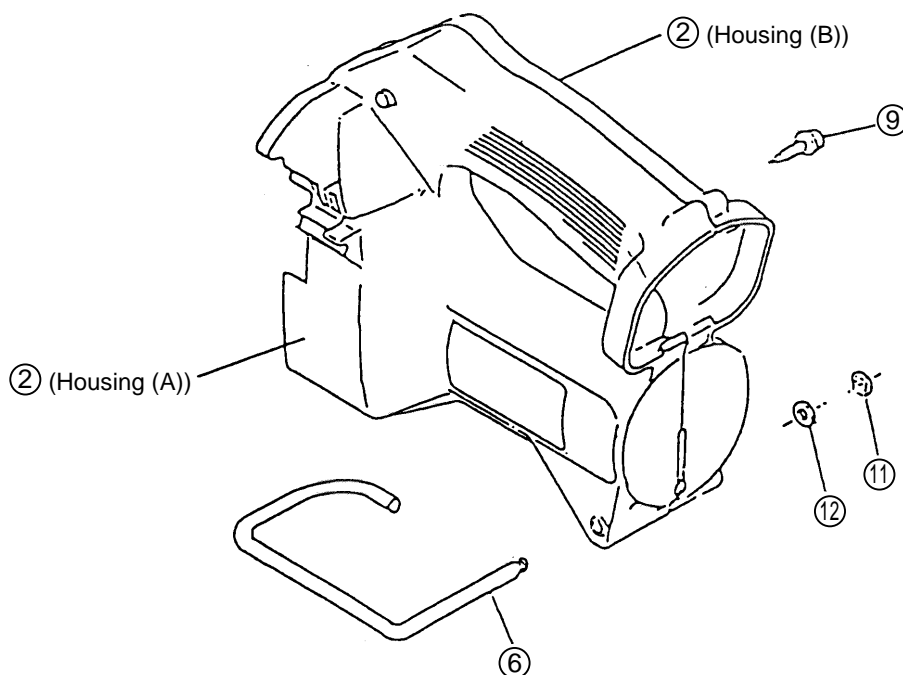

Fig. 10
- (1) Disassembly of the Housing and Related parts:
- (a) Remove the Hook (6). (See Fig. 10)